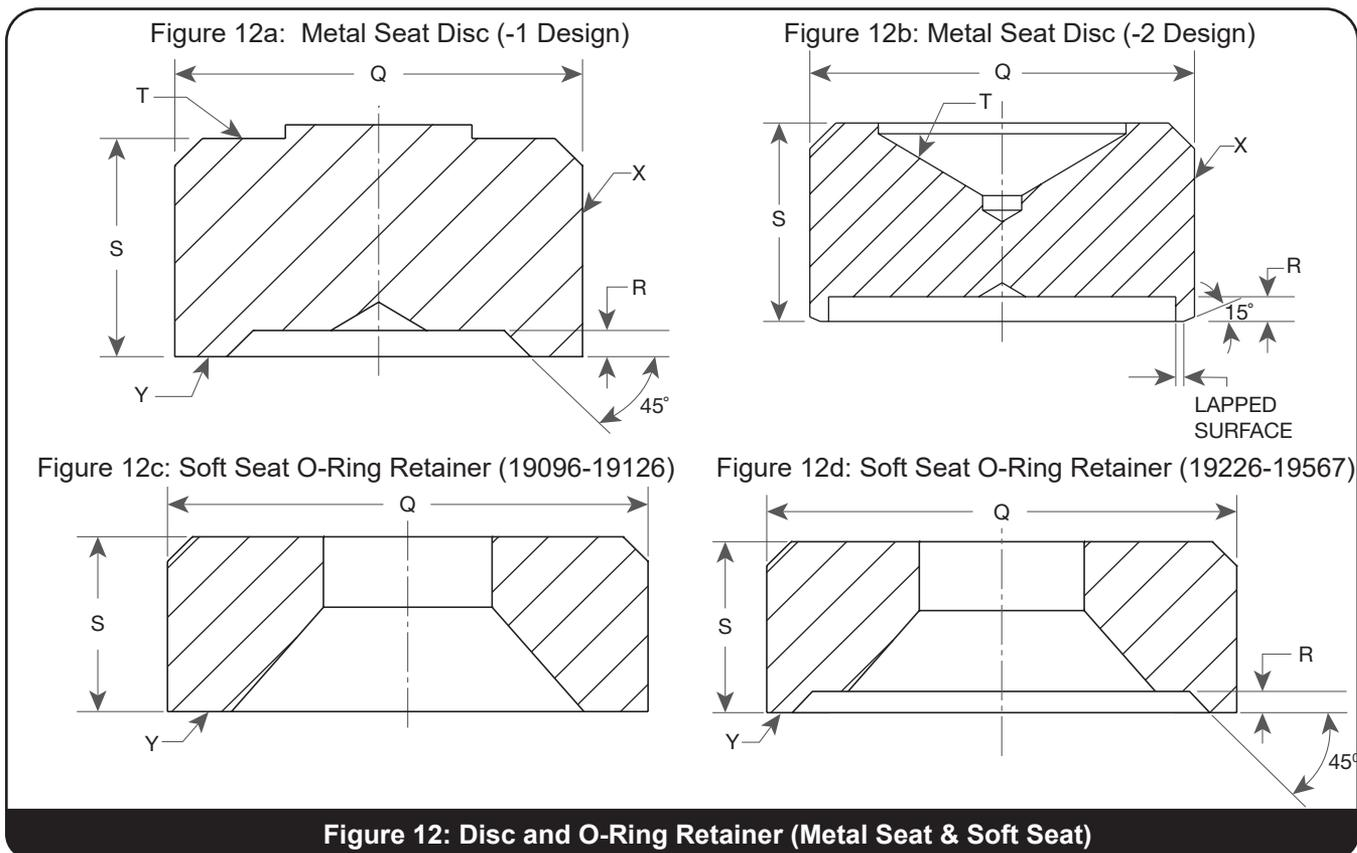

Figure 12: Disc and O-Ring Retainer (Metal Seat & Soft Seat)
- When the disc seat cannot be repaired by lapping, it can be machined as shown in Figure 12, using the dimensions provided in Table 7.
B. O-Ring Seat Seal Valves (DA)
- Replacing the O-ring retainer (3)
If slight damage is present, the O-ring retainer can be refurbished by either lapping or machining. O-ring retainer should be replaced if severely damaged or if dimension S (minimum) is exceeded (see Figure 12 and Table 7).
1. These valves have a 15° angle as shown in Figure 12 (-2 Metal Seat Design).
1. Seat surface "Y" (see Figure 12), is damaged beyond lapping or machining limits.
1. O-ring seat seal (37) – always replace.
2. O-ring retainer (3)
- a. Lapped seat relief height "R" is less than "R" minimum and dimension "S" cannot be maintained (see Figure 12 and Table 7).
D. Bonnet (6)